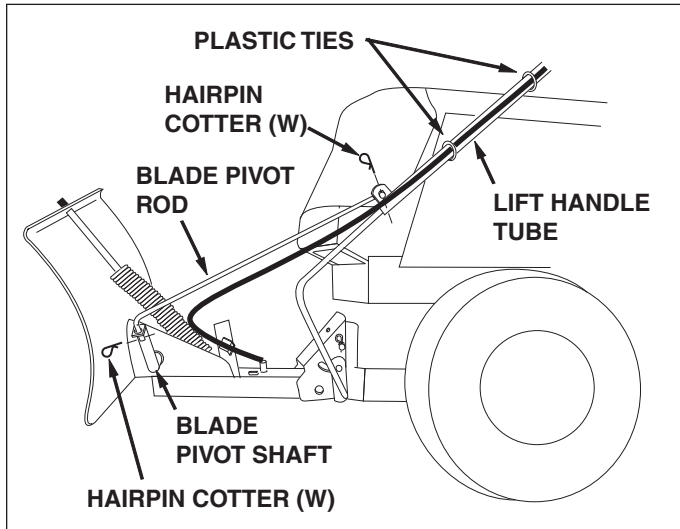

FIGURE 26
STEP 12: (SEE FIGURE 26)
- Place the end of the blade pivot rod down through the blade pivot shaft. Attach the other end of the blade pivot rod to the lift handle tube. Secure both ends with a hairpin cotter (W). The holes for the hairpin cottes should be parallel to the ground.
- Remove the hairpin cotter which fastens the blade pivot rod to the blade pivot shaft. See figure 26 on page 13.